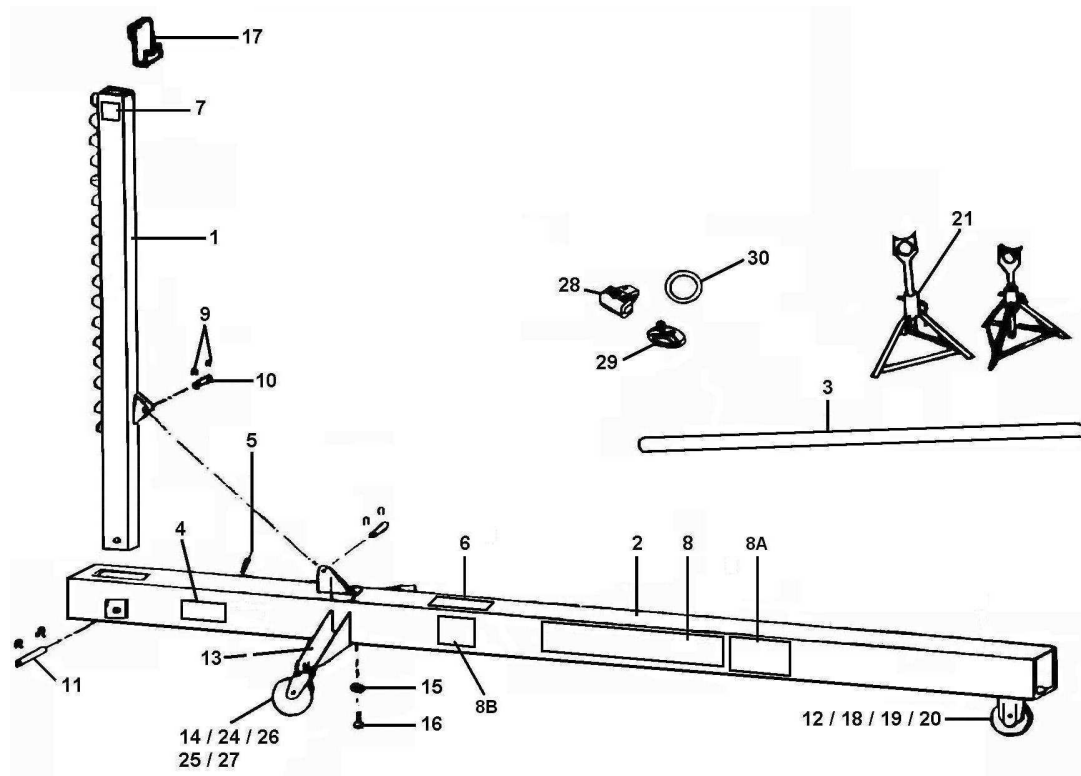

Figure 1 (Example: AEK90)
1. Fasten the swivel castors (14) to the wheel bracket (13) with the nuts provided (Fig.1)
2. Attach the wheel bracket (13) to the main beam (2) by means of screws (16) and lockwashers (15).
3. Mount the front stationary castor (18) to the main beam (2) with 4 screws M8 x 20 (19), washers (12) and nuts (20).
4. Place the pivot arm (1) in the main beam (2) housing.
5. Align the holes and insert the pivot pin (11); then put the retaining rings in the slots.